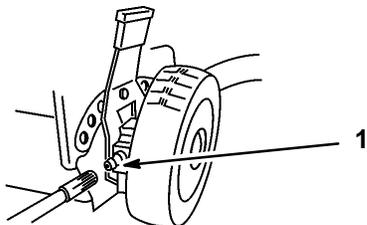

Figure 29
- Wipe the grease fittings on the rear height-of-cut adjusters (Fig. 29) with a clean rag.